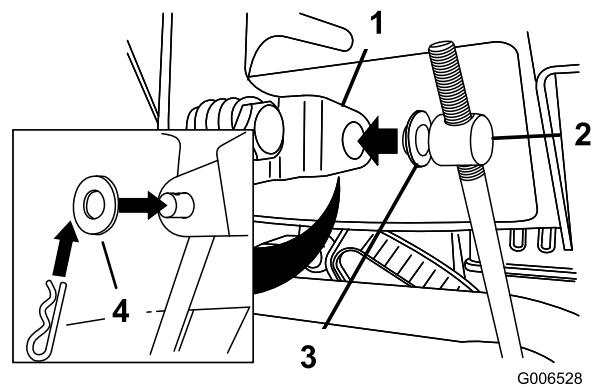

Figure 6
Note: To make installation easier, leave the flat washer on the trunnion (Figure 6).
- Lift up on the speed control rod and insert the trunnion into the hole in the speed selector lever (Figure 6).
- Remove the hairpin cotter and the outer washer from the trunnion on the upper end of the speed control rod (Figure 6).
- B. Disconnect the trunnion from the speed selector lever (Figure 6).
- C. Turn the trunnion upward (counterclockwise) on the speed control rod (Figure 6).
- D. Connect the trunnion to the speed selector lever (Figure 6).